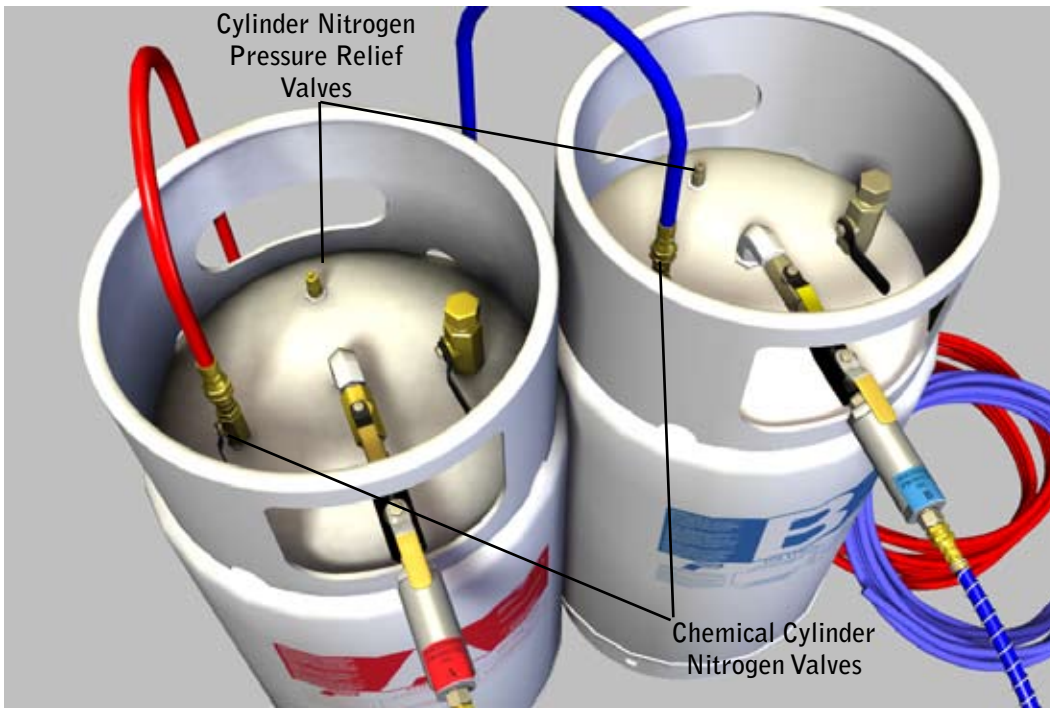

Figure 12
- 1 | Close the nitrogen valve on the chemical cylinder. (See Figure 12)
- 3 | Locate the pressure relief valve on the chemical cylinder being adjusted. (See Figure 12)
- 5 | Open the nitrogen valve on the chemical cylinder. (See Figure 12)